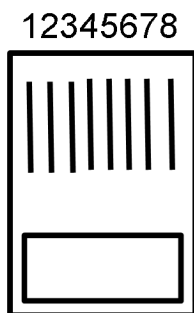

Figure 2-3 Top View (pins visible) numbering of the RJ45 plug pins.
*This table assumes the numbering shown in Figure 2-3, where the gold pins are held upwards and away from the reader.*